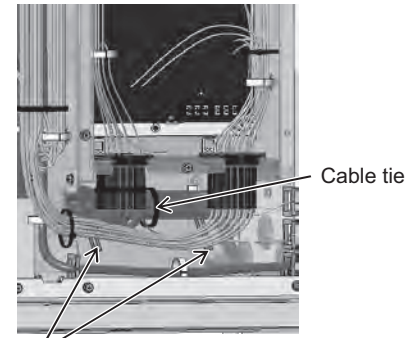

Figure 10
- (13) Cut the cable tie and loosen the two welding clamps holding the strong electrical wiring at the bottom of the main control box. (See Figure 10.)